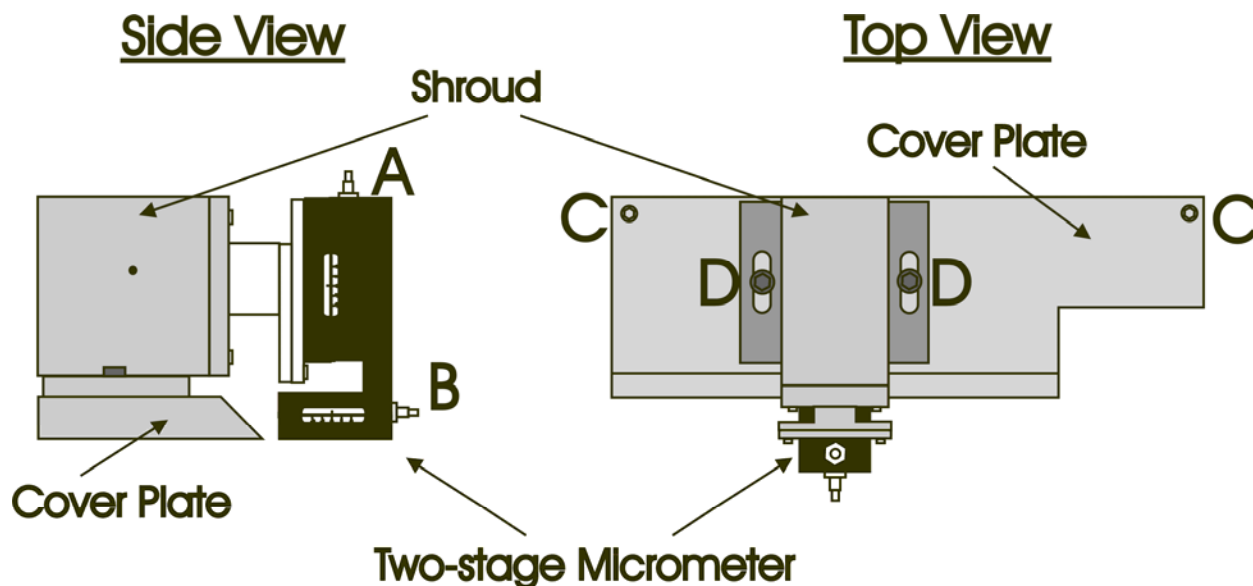
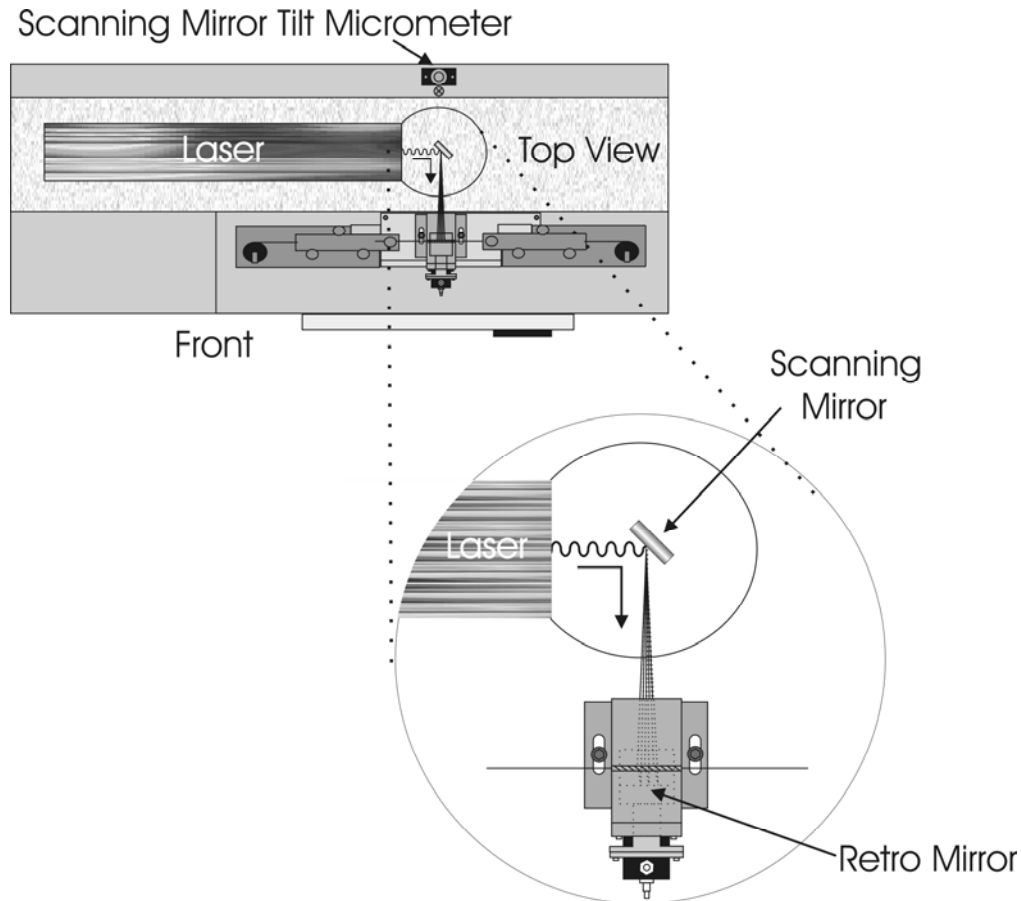
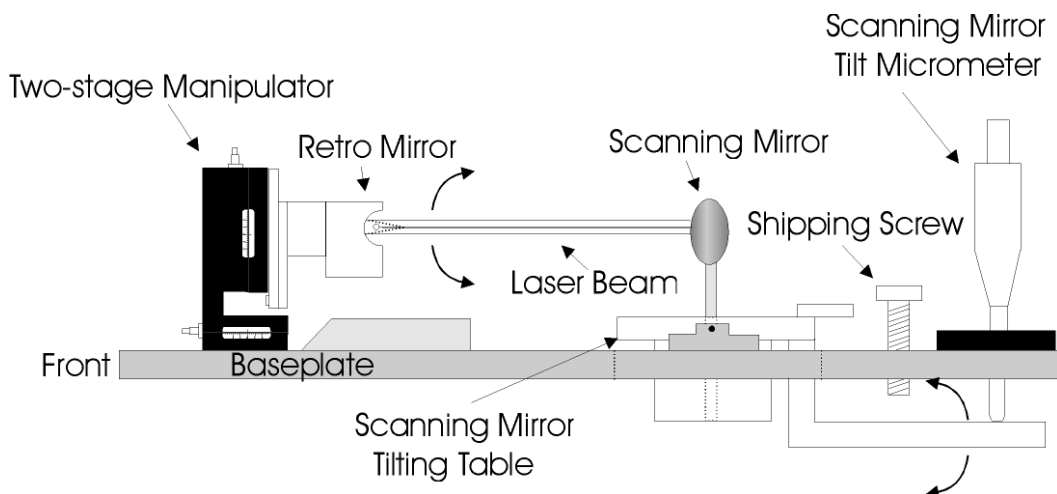

Figure 1-4. Retro Mirror Assembly
Figure 1-5. Optical Pathway (top view without laser housing).
Figure 1-6. Optical Pathway
- RETRO MIRROR** Covered by the SHROUD and not visible in Figure 1-4. See the Optical Pathway section and Figure 1-6 for details.
- SHROUD (Figure 1-4)** The SHROUD encloses the RETRO MIRROR and the optical pathway of the laser beam. This component is one of the safety features protecting the user from exposure to the laser beam. Access holes in the side of the SHROUD allow the glass to be loaded into the optical pathway of the laser. On a fiber puller, model P-2000/F, the “fiber” SHROUD access holes are connected by a slot to make loading the fiber more convenient. The SHROUD can be removed for inspection and cleaning of the RETRO MIRROR by unscrewing the two screws (labeled D in Figure 1-4) that hold it to the COVER PLATE and lifting the SHROUD straight up.
- TWO-STAGE MICROMETER (Figure 1-4)** The TWO-STAGE MICROMETER is used to align the RETRO MIRROR contained in the SHROUD. Alignment of the RETRO MIRROR has been performed at the factory and should not need readjustment. See the MAINTENANCE chapter for details on this procedure.
- COVER PLATE (Figure 1-4)** The cover plate conceals the entry of the PULLING CABLES into the BASE of the instrument. It is attached to the BASE PLATE by two screws (labeled C in Figure 1-4). The SHROUD, in turn, is anchored to the COVER PLATE.
The laser beam used to melt the glass in this instrument is directed as indicated in Figure 1-5, below. Each of the components necessary for defining the optical pathway of the laser beam are labeled in that figure and described in this section.
(Figure 1-5)
(Figure 1-5 & Figure 1-6)
(Figure 1-6)**